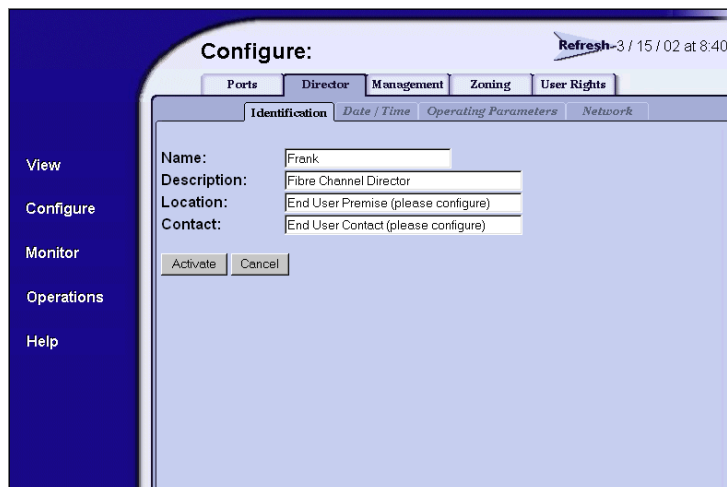

Figure 2-67 Configure Panel (Director Page with Identification Tab)
1. At the *Configure* panel, click the *Director* tab. The *Director* page displays with *Identification* selected (Figure 2-67).